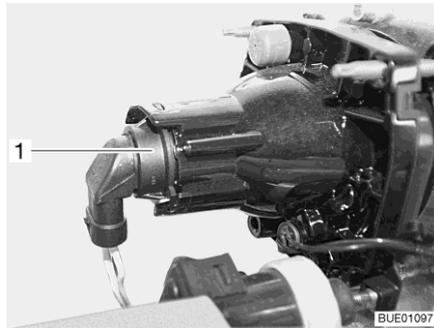

Fig. 287 Low beam/main beam/parking light
- Put your hand behind the lamp holder (Fig. 287,1).